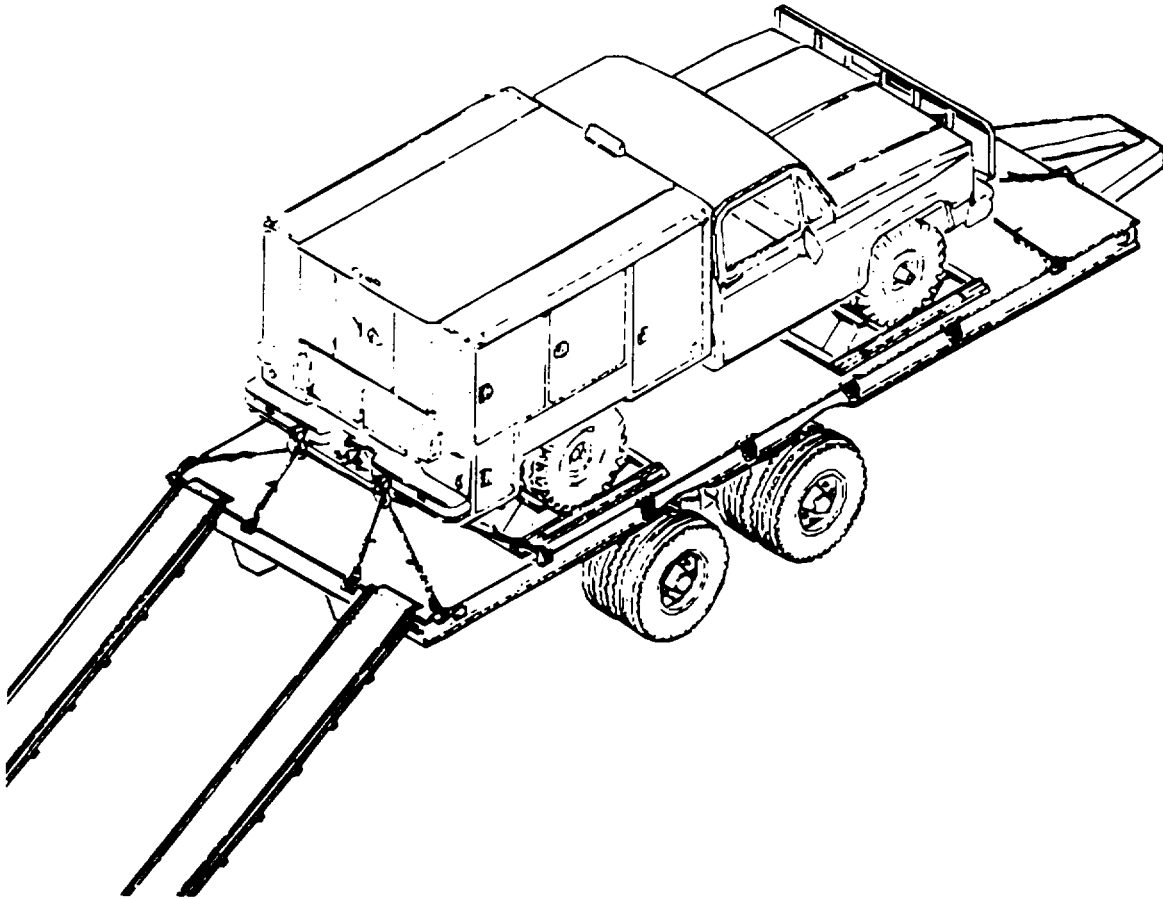

Figure 4-21. Shipping CMV by Flatbed Trailer.
- (3) **Shipping by Flatbed Trailer.** Refer to figure 4-21 and load CMV (under its own power), onto flatbed trailer and secure using wheel blocks.
- (4) **Wheel Blocking Procedures.** Refer to figures 4-21 and 4-20 and perform the following procedures for wheel blocking of CMV.